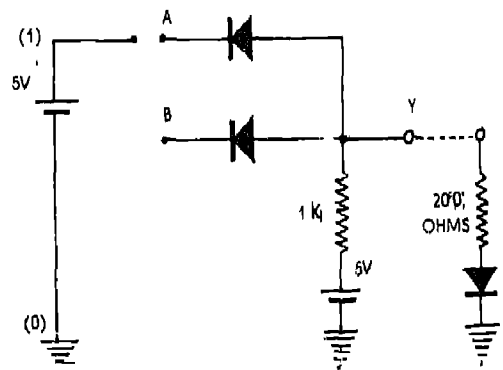

Fig 21.2
1. Make the connections as shown in Fig. 21.2.